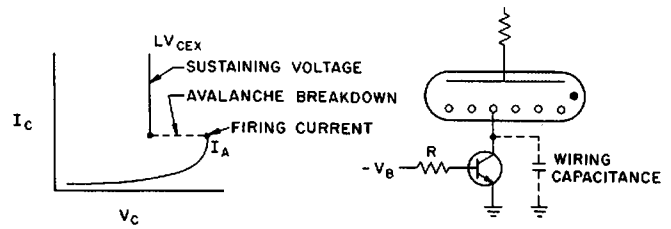

Fig. 30 — Typical Voltage Breakdown Characteristic Triple-Diffused Silicon Transistor
4. The transistor should not exhibit avalanche breakdown within the operating conditions (see Figure 30). This is an important consideration when silicon transistors are used. Collector currents as low as 100 microamperes may cause a unit to "fire" to a lower voltage. This lower voltage may be called the sustaining voltage. If the transistor will fire under the operating conditions, the switch may act as a free running sawtooth generator (see Figures 30, 30A and 30B). The amplitude of the sawtooth will depend on the difference between BVCEX and LVCEX. To avoid this condition, transistors should be selected to have firing currents higher than 500 microamperes.